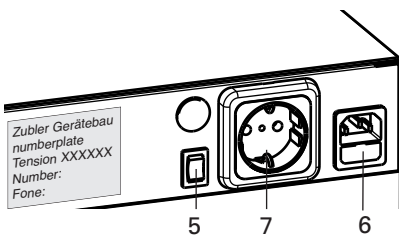

Fig. 0.2: side view
Plug in the power cord of the technical gear (e.g. handpiece) into the automatic socket (27) (Fig.0.2) of the suction unit. The max. load may not exceed 450W !
- If the external sensitivity switch (5) (Fig. 0.2) is on level II the suction unit will run continuously, even if the handpiece is not actuated. (Sensitivity too high)